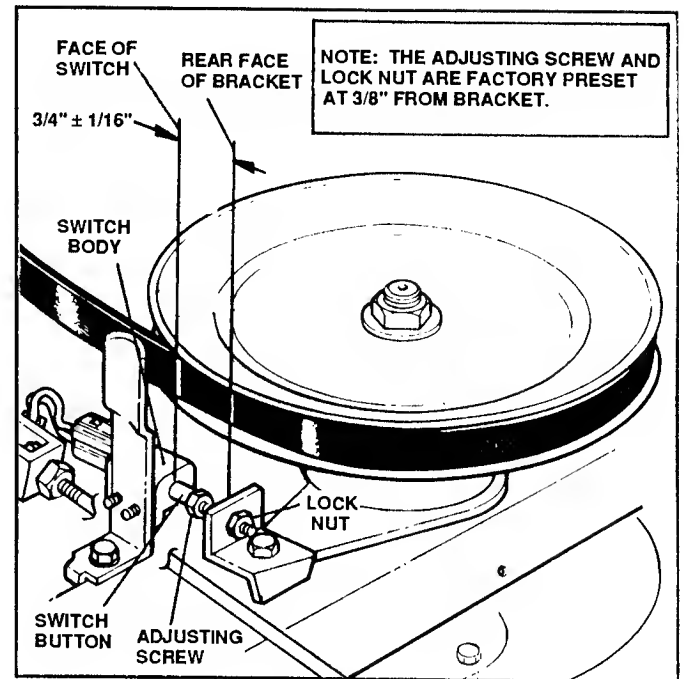

FIGURE 22
3. Note that the blade brake operates properly only if cable is sufficiently slack with the BLADE CONTROL "OFF". If the blade does not stop from full speed within 3 seconds after moving the BLADE CONTROL to "OFF", readjustment of the brake band is required. To check braking action, start engine, turn BLADE CONTROL first to "ON", then "OFF", and observe how long it takes for the blade to stop rotating. To adjust brake action, stop the engine and remove the belt cover, then pull the brake band away from the drum, loosen the jam nut and adjust T-nut until there is 3/4" between face of switch and rear of bracket as shown in Figures 22 & 23.